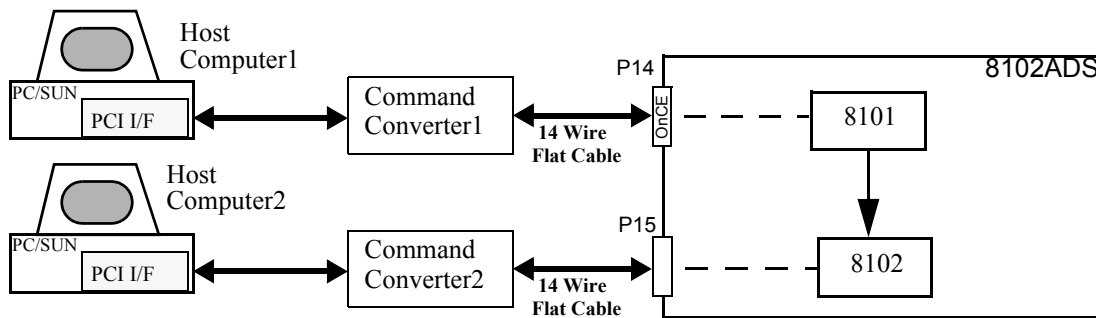
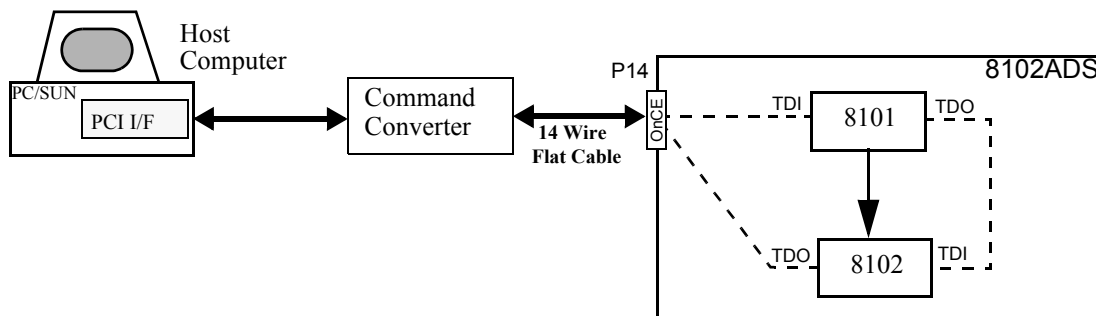

Figure 3-9 Host System Debug Scheme A (spitted)
Figure 3-10 Host System Debug Scheme B (daisy-chained)
In the Debug Connection Scheme configuration the MSC8102ADS is controlled by a host computer via the OnCE Port, a subset of a JTAG port. This configuration allows for extensive debugging using an on-host debugger. The Host is connected to the ADS via a Command Converter provided by a third party such as Macraigor Systems. A PCI host debug interface is preferred due to the faster throughput offered by a parallel port interface. Three possible connections are shown in the figures below: Figure 3-9 Host System Debug Scheme A (spitted), Figure 3-10 Host System Debug Scheme B (daisy-chained) and Figure 3-11 Host System Debug Scheme C (daisy-chained).
- 1) Connect the External Command Converter to the front “OnCE” (P14) connector for B and C debug scheme (Figure 3-10 and Figure 3-11) and to P14 and/or to header P15 for A debug sheme (Figure 3-9).